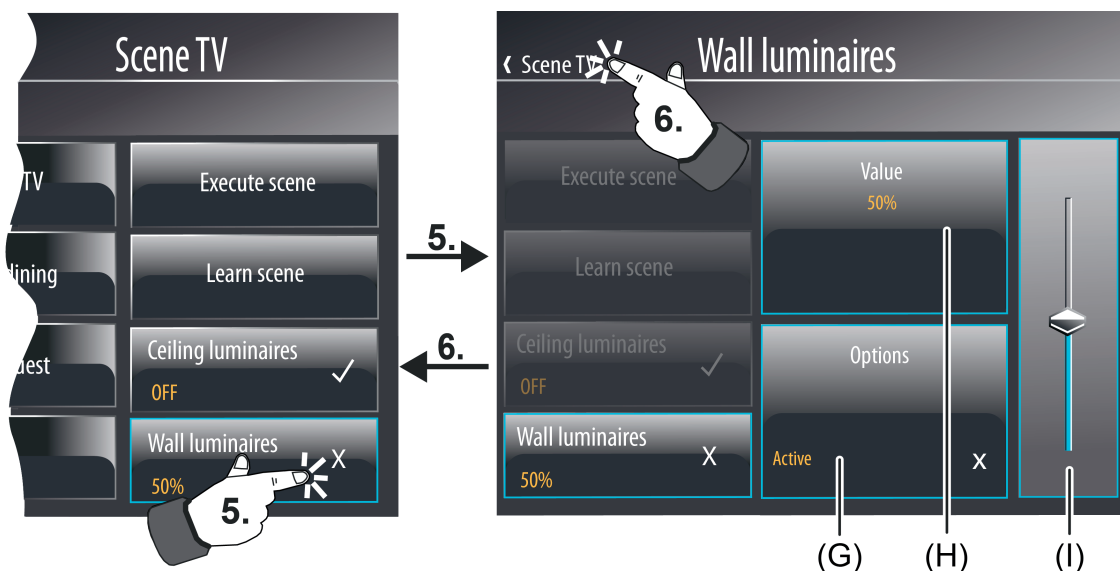

Figure 83: Example of a scene configuration page (right) - scene function "Value"
With the data types "1-bit value" and "2-bit value" (figure 83) the display area is only characterised with a status value (H). If this display area is pressed long (approx. 1 second), the device displays an on-screen keyboard. A new scene value can be preset directly by means of this keyboard. Alternatively, new scene values can be preset by the value slider in the operating area (I).